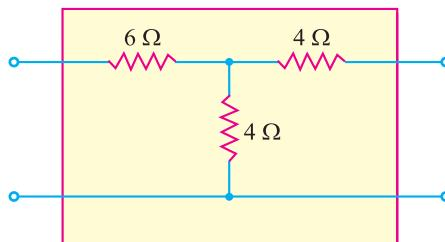

Fig. 24.16
- Determine the  $h$ -parameter values for the circuit shown in Fig. 24.16.